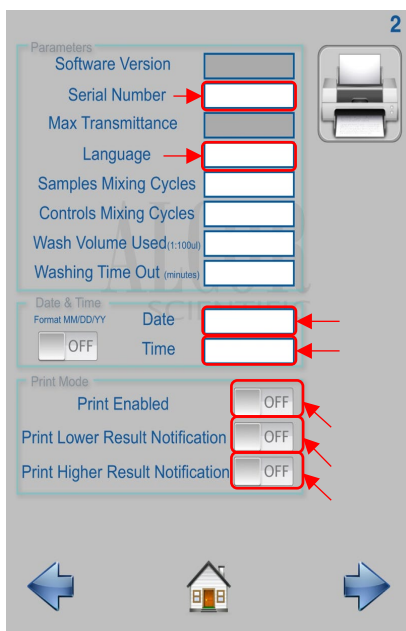

Figure 41
- 10.5. Update the SN, Language, Date & Time, and printing preferences from previous mainboard OR, if cannot turn unit on, based on Customer preference. See Figure 41.